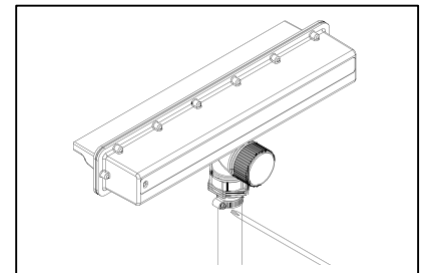

Fig. 6
- Tighten the hose clamp using a flathead screwdriver. Fig. 6